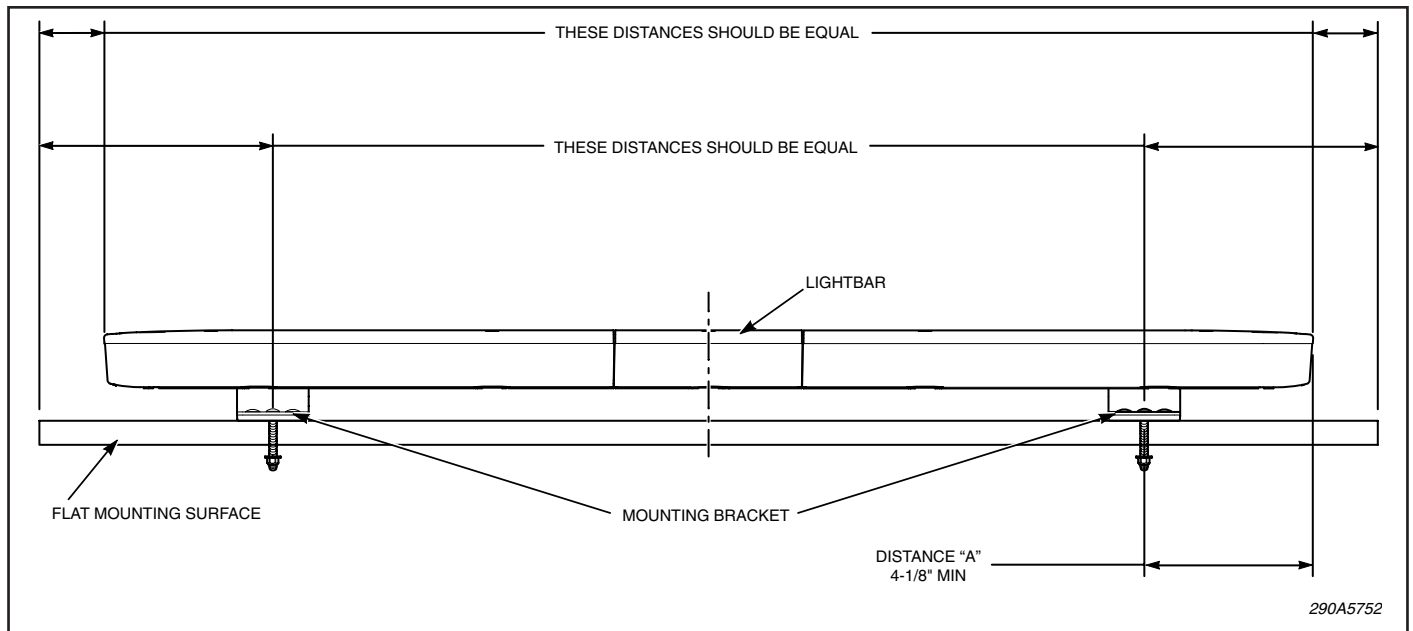

Figure 1.
A. See figure 1. Position the lightbar assembly on the flat mounting surface. The lightbar should be centered on the flat mounting surface.